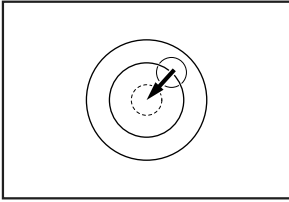

Fig. 3
1. Turn on the power switch (5). The unit (laser level) projects the horizontal laser- beam line.
2. If the unit is placed in a slanting position, it will not emit any laser lines at all. Adjust the level adjusting screw (10) so that the air-bubble in the round vial (4) is centered. Fig.3
3. If you work with the receiver (optional accessory), press the interior/exterior mode change button (2) . Exterior mode indicator LED (green) (3) will light on.